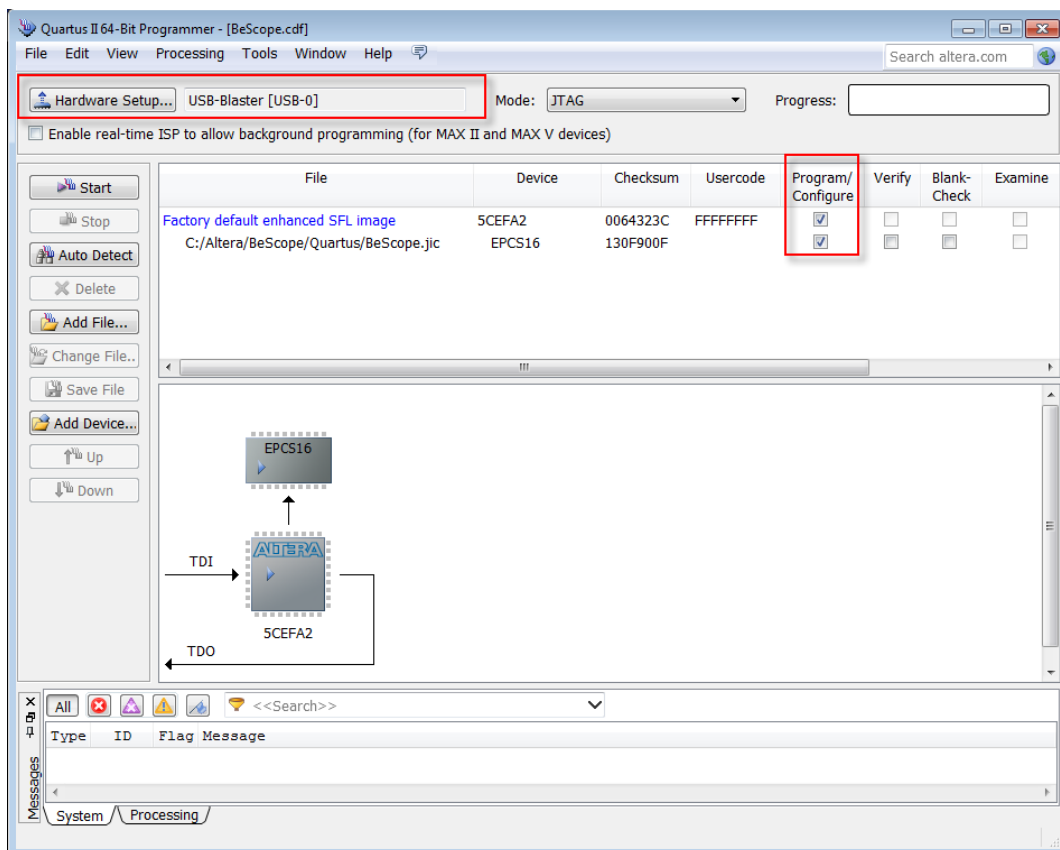

Figure 2-2: Quartus programmer setup
5. Confirm that the programming chain looks like the image in Figure 2-2
6. Check the Program/Configure box as shown in Figure 2-2